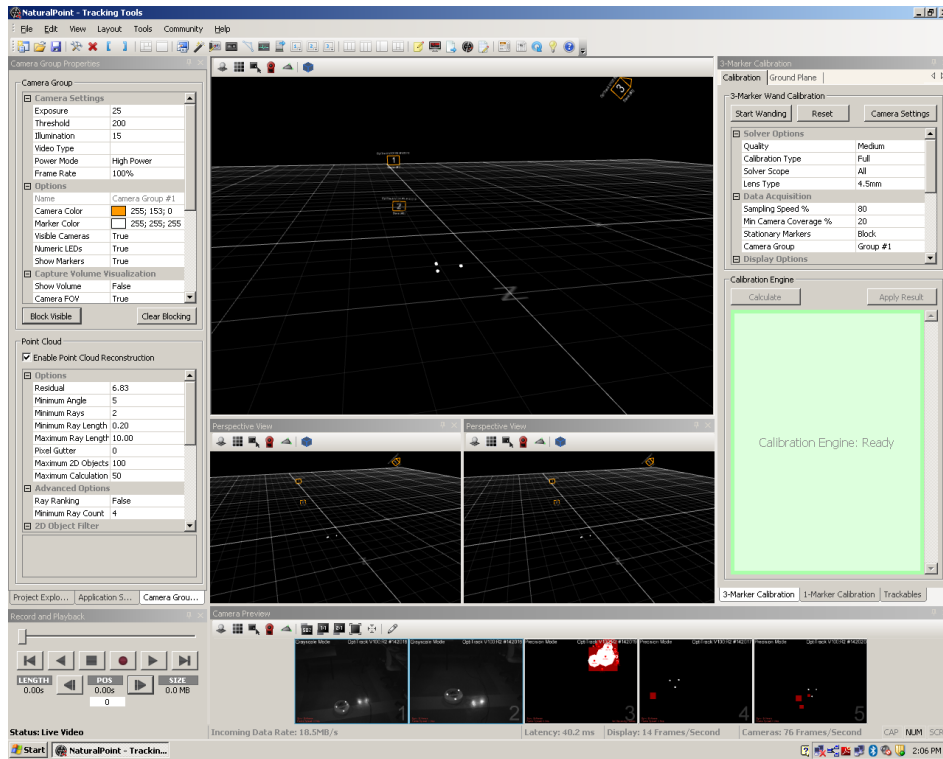
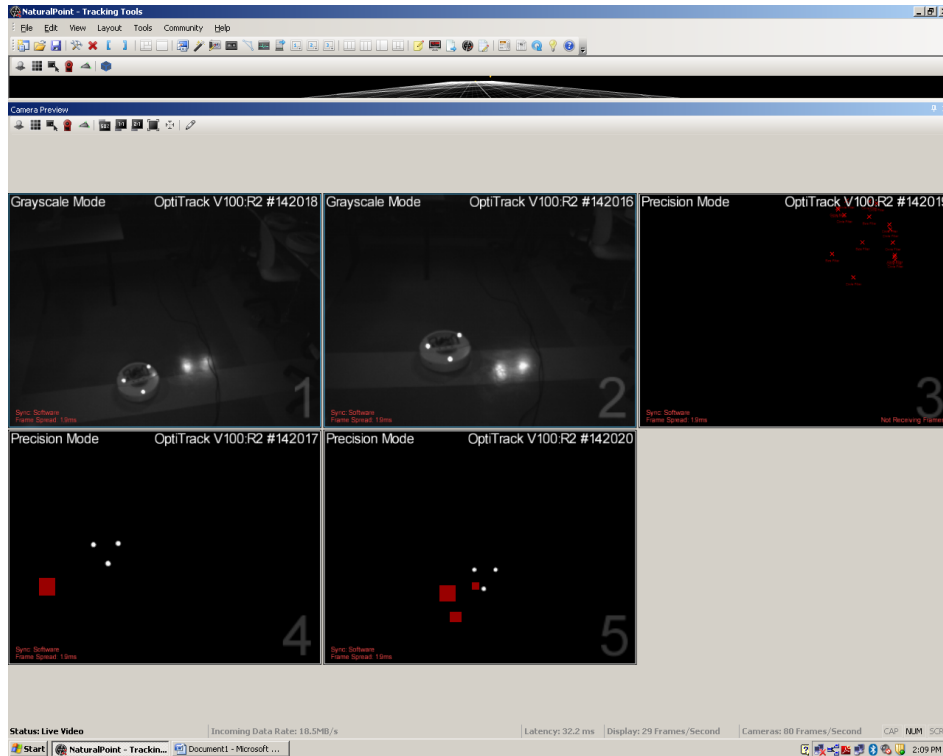

Fig.12. iRobot Found as a Rigid Body
Fig.13. iRobot found by 5 Cameras: Camera 1 and 2 in GrayScale mode.
- b. Block camera's infrared reflection on the floor. This reflection might be thought as a reflective marker if not blocked. (See the image of this reflection in Figure 13).
Open the Tracking Tools Application, and Perform Camera Calibration, or open a saved calibration by using Open Camera Calibration option. You should be able to see the iRobot with three markers in the capture volume. Figure 12 is a view of what the tracking tools software displays at this point. The cameras can also be set in the grayscale mode as shown in Figure 13.